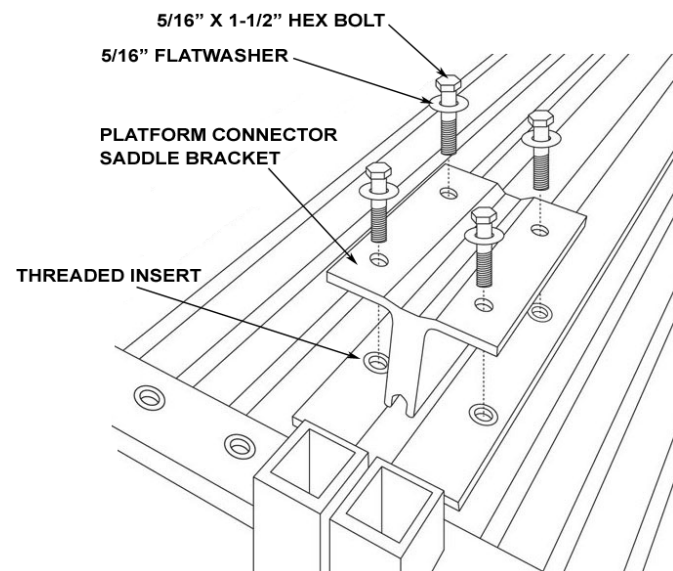

FIG. 8
- iii) Attach platform connector saddle bracket (two each) into existing threaded inserts using 5/16" x 1 1/2" hex bolts (four per bracket) and 5/16" flat washers (four per bracket) as shown in FIG. 8. **DO NOT OVER TIGHTEN.**